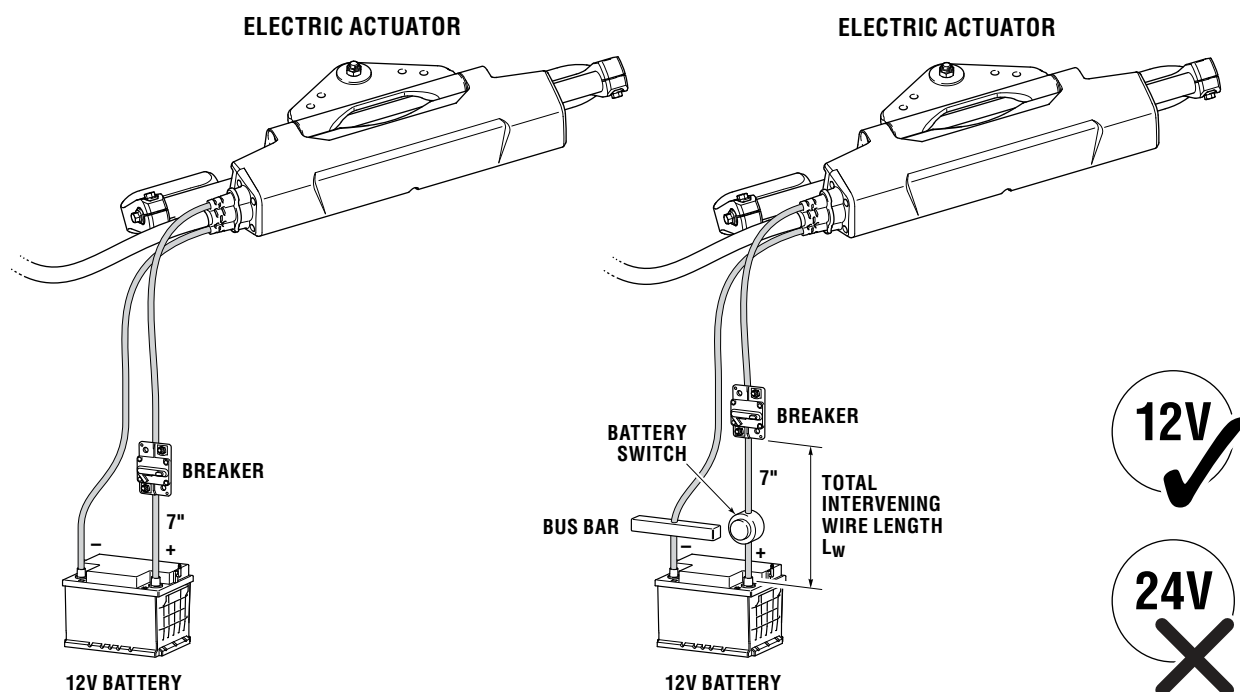

Figure 5-18.
Figure 5-18 shows a sample power schematic. For each actuator in your system, you will need the following items (not included with your installation kit):
- Red wire that meets ABYC requirements, of the appropriate size for the intervening wire length between the actuator harness and the battery (see figure 5-18 and table 5-5).